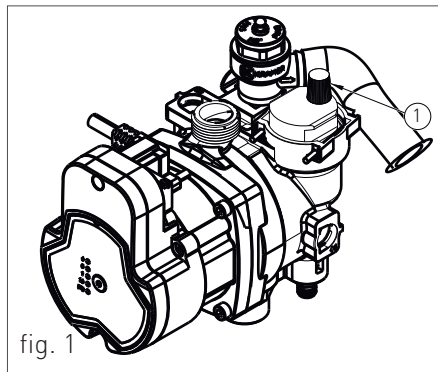

fig. 1
1. slightly loosen the cap of the pump air vent valve (1-fig. 1) to release the air from the system;